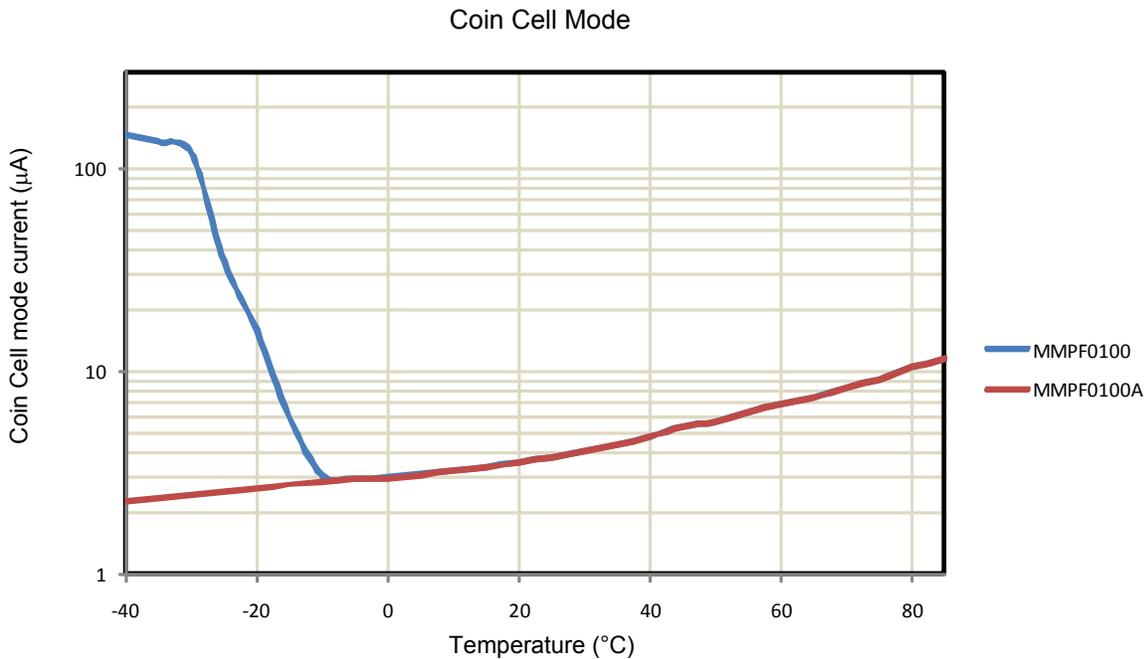

Figure 4. Current Over Temperature Waveforms
15. Refer to Figure 4 for Coin Cell mode characteristics over temperature.